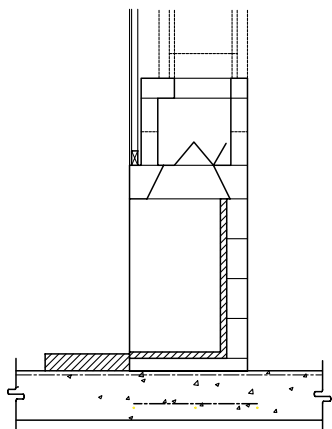

FIGURE 85
2. Slab-on-grade foundations, thickened and reinforced: for additional load carrying. (Figure 85)